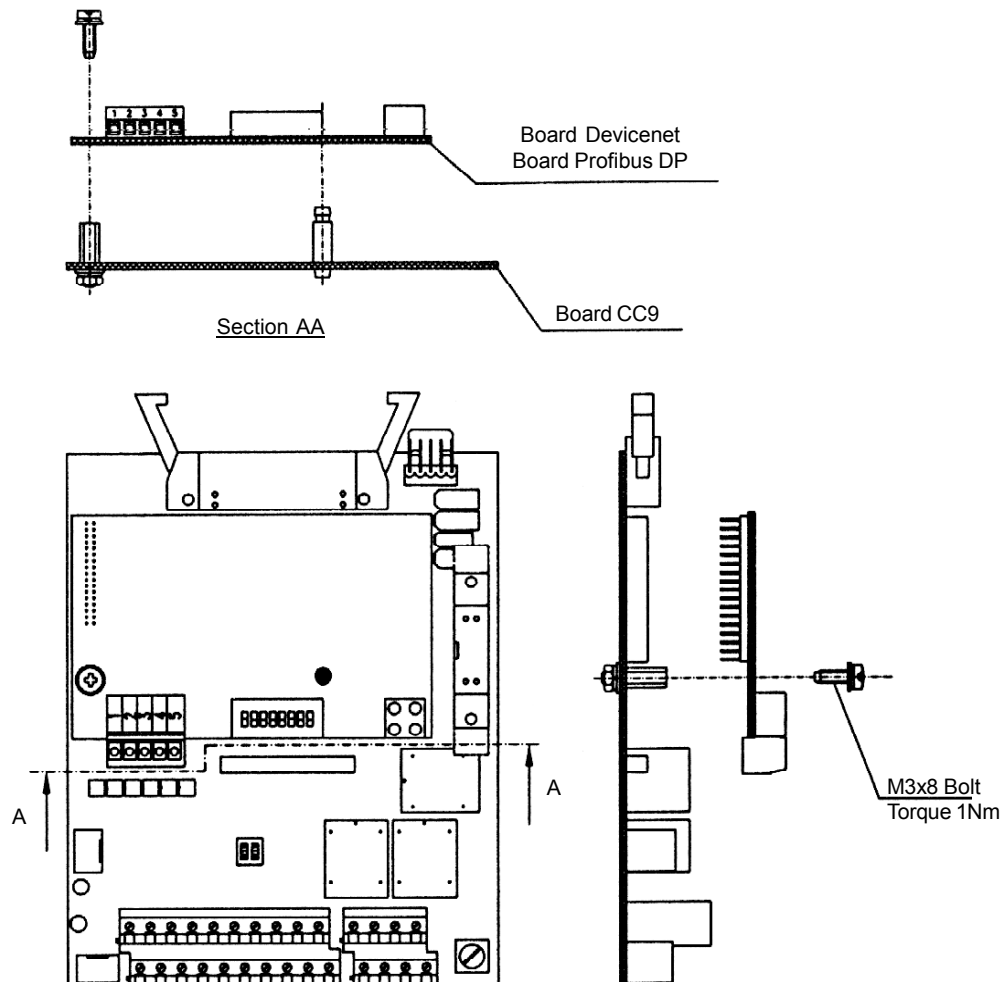

Figure 8.35 - Installation of the electronic board of the Fieldbus
2. Connect carefully the pin connector of the Fieldbus board to the female connector XC140 of the CC9 control board. Check the exact coincidence of all pins of the XC140 connector (refer to figure 8.35).